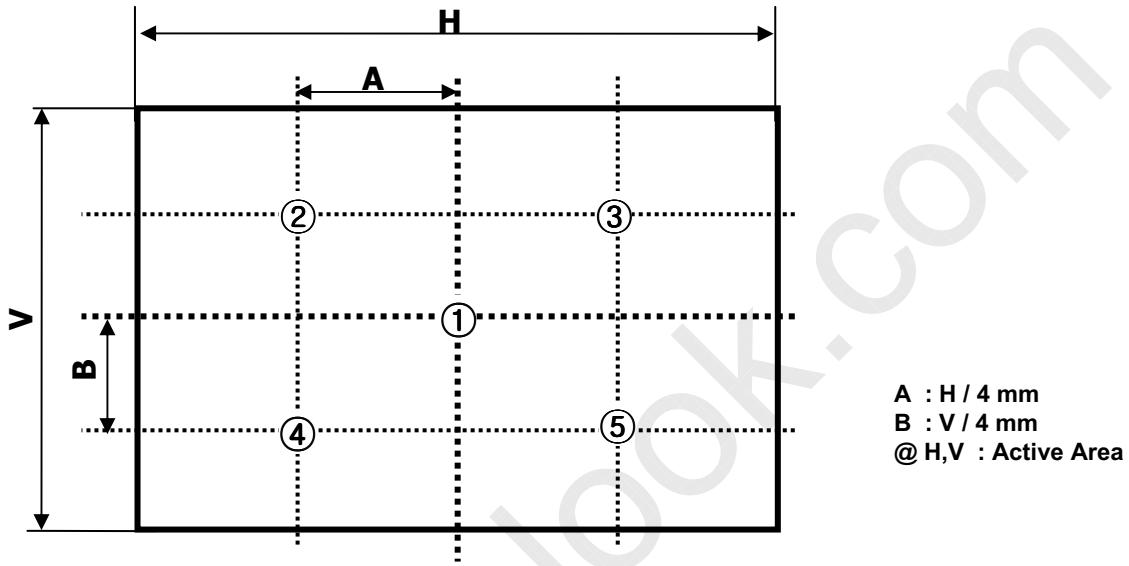

FIG. 10 5 Points for Luminance Measure
2. Surface luminance is determined after the unit has been 'ON' and 1Hour after lighting the backlight in a dark environment at $25 \pm 2^{\circ}\text{C}$. Surface luminance is the luminance value at center 1-point across the LCD surface 50cm from the surface with all pixels displaying white. For more information see the FIG. 10.
For more information, see the FIG. 10.